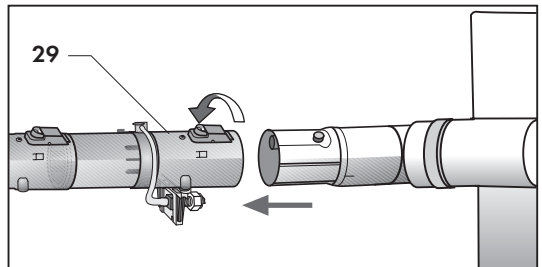

Fig. 14
- install the female end of the sprinkler to the end of the brush and rotate the ring to lock the two parts together **(Fig. 14)**